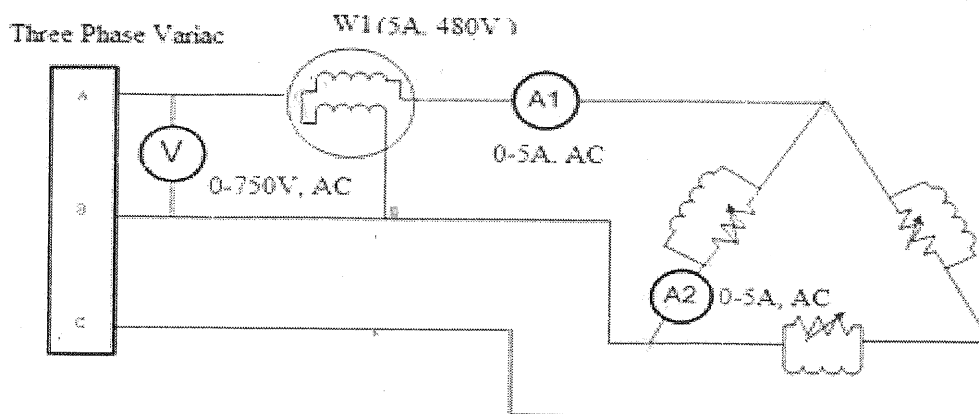

Figure 1: Circuit diagram for power measurement using single wattmeter
Step 1 – Connect the circuit as shown in Figure 1. Here the load is formed by parallel connection of the resistive and inductive loads.